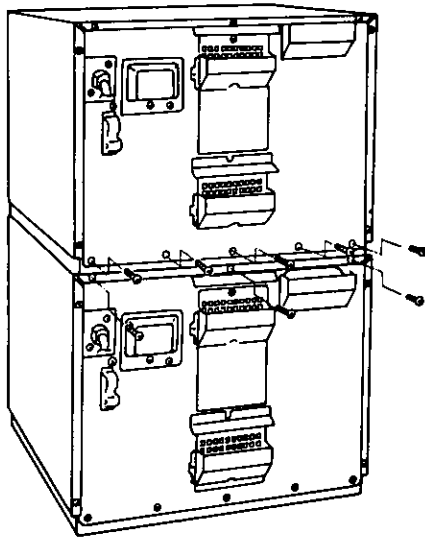

Fig. 1.
3. Purchase one $\frac{5}{16}$ " bolt whose length falls between the minimum and maximum bolt length as determined in Step 2 above. (Fig. 1 & 2)
1. Stack the units and remove the screws from individual unit as shown in Fig. 1.